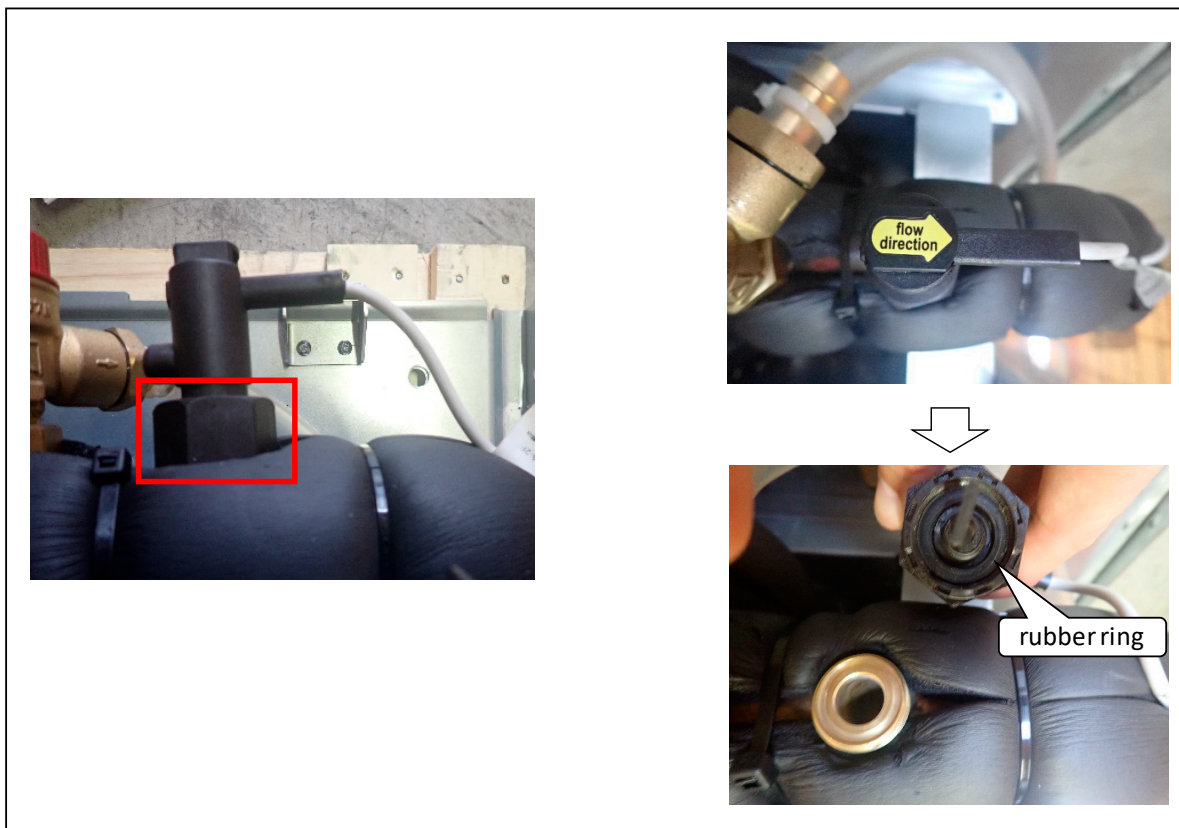

Fig14. Removing flow switch
- (b) Loosen the nut under the flow switch. Remove the flow switch.(□ mark, Fig.14)